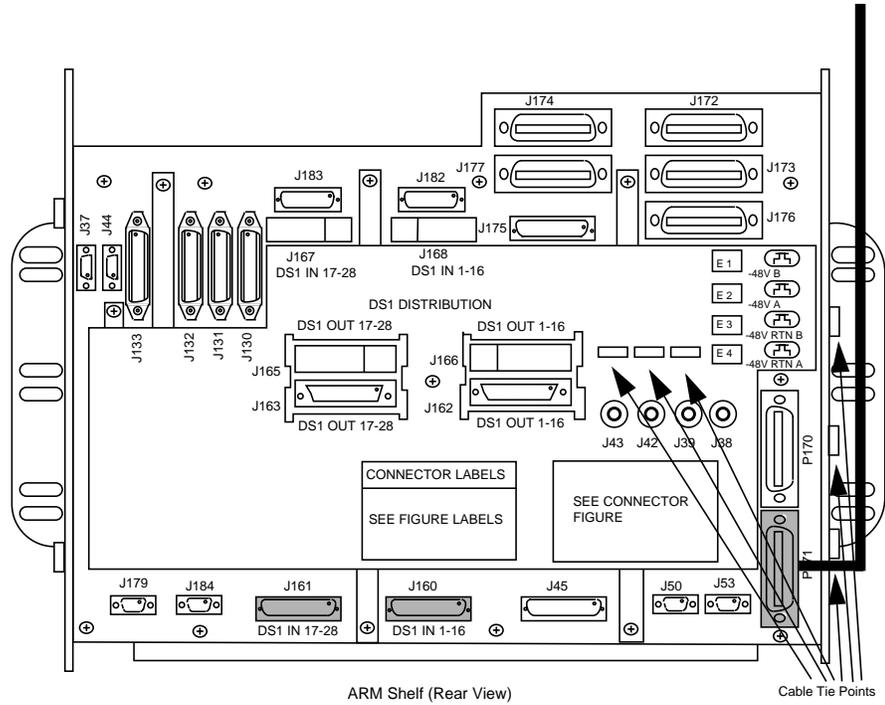

Figure 3-22. J171/ARM Shelf Connection
- Step 1:* Install the appropriate Group Interface Cable Assembly in the left duct and mate its J171 connector with the P171 connector of the ARM shelf. (See Figure 3-22.)